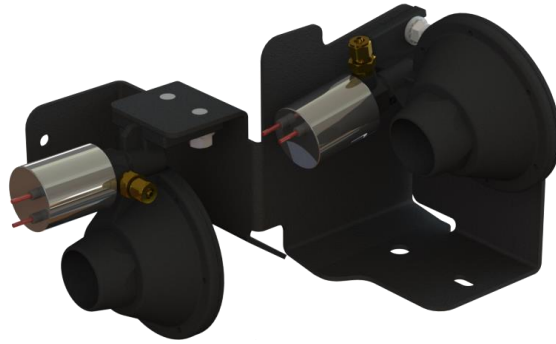

Figure 6: JT220 Horn Drivers Installed
1. Remove M6 nut and bolt from OEM gas tank splash shield, near Transmission crossmember, as shown circled in Figure 6 below. These bolts will be reused.